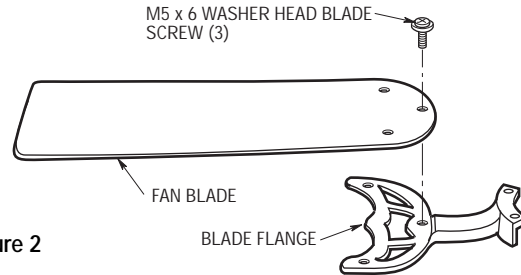

Figure 2
- 6. Mount the blade flanges to fan blades using three M5 x 6 washer head blade screws per blade (Figure 2).